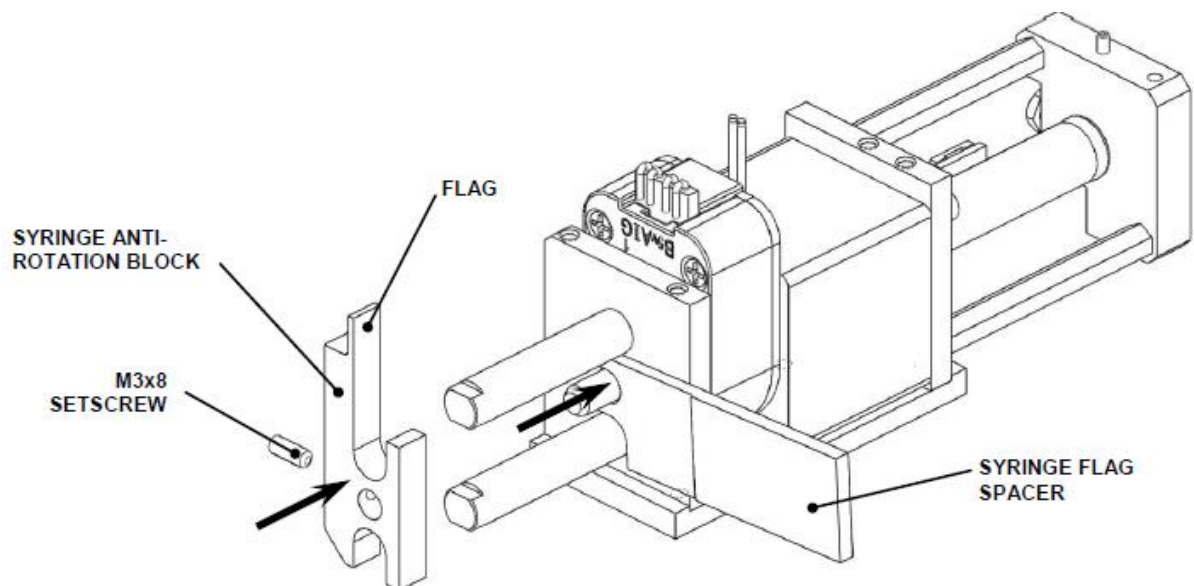

Figure U-29: Assembling the Syringe Assembly
12. Push the Motor Lead Screw up through the Motor until the top face of the Dispense Seal touches the bottom face of the Manifold (Figure U-29). Position the Syringe Flag Spacer over the Lead Screw. Then, slide the Syringe Anti-Rotation Block (23503490) until it touches the spacer. In this configuration, fix the Syringe Anti-Rotation Block to the Motor Lead Screw with one M3x8 Flat Point Set Screw using a 3 in-lb torque driver. Note that the flag goes on the same face as the Motor and Encoder Cables.